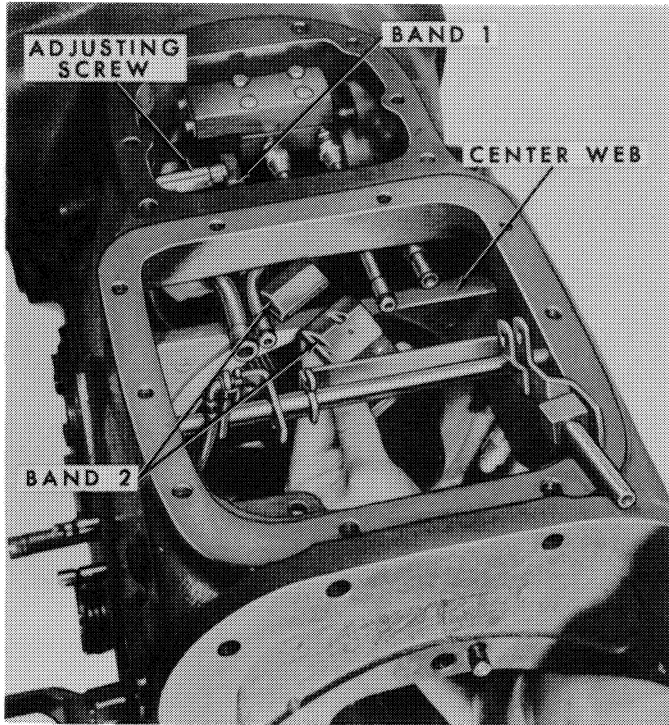

Figure 54
be removed by rotating it around the center web of the transmission, as shown in Figure 54.
11. Install band 2 adjusting screw, flat washer, and lock nut. Rotate band 2 around the center web of the transmission and secure in position with the depression in the adjusting screw. See Figure 54. Join the band to the adjusting screw with the adjusting strut and to the servo lever with the actuating strut.
13. Install band 1 over the direct drive clutch housing. See Figure 54. Install band 1 adjusting screw, sealing washer, and lock nut and secure the band with the adjusting screw and actuating strut, thin end toward the band.